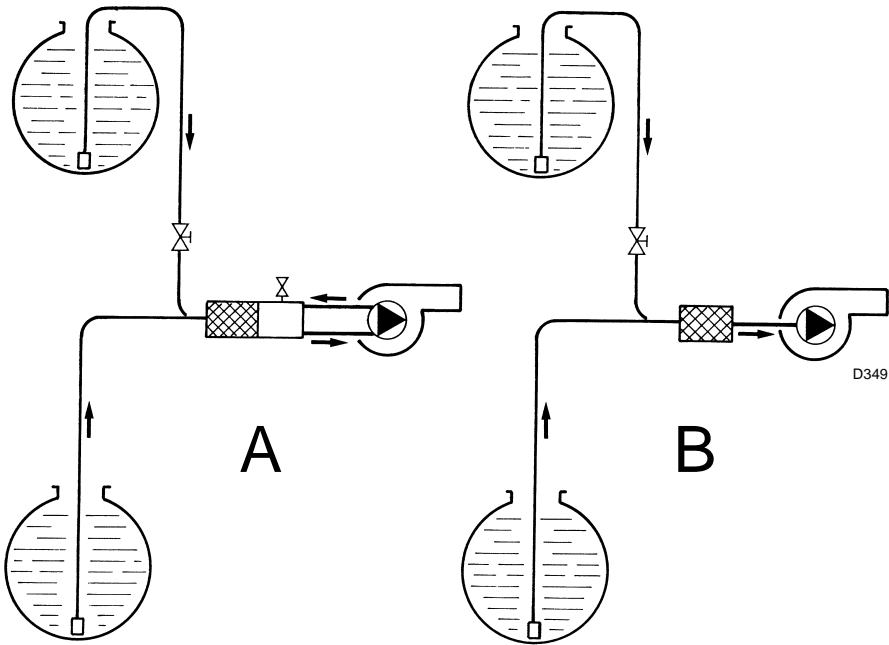

Fig. 19
- Pump external bypass (A, Fig. 19) (recommended)
- Pump internal bypass (B, Fig. 19)
When single-pipe fuel supply systems without degaussing units (Fig. 19 on page 22) are used, this screw, accessible from the connector 2), must be removed. In this way, the excess in the delivery discharged by the pressure regulator into the return line passes into the suction line.